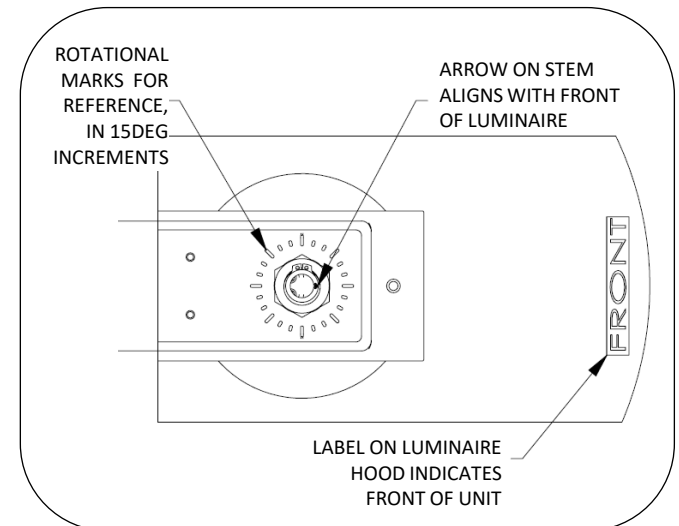

Fig. 9 – ADJUST TWIST ROTATION (AREA AND ACCENT LUMINAIRES)
2. Loosen the nut enough to allow rotation of the luminaire hood. Do not remove nut. Indicators on arm, see Fig. 9, are shown in 15deg increments for reference. Rotate luminaire to desired location and tighten nut to 75 ft-lbs when in position.